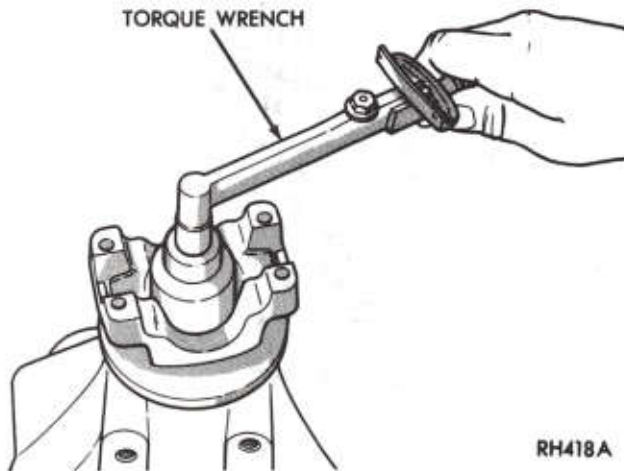

Fig. 23—Rotating Pinion to Seat Bearings
(4) Using inch pound torque wrench, tighten yoke nut until it requires 10 in. lbs. (1.13 N·m) to rotate pinion (Fig. 23).
(5) Recheck pinion depth at this time by placing arbor and discs (small diameter discs for Model 60 axles and large diameter used on Model 70 axle) into cross bore of carrier. Place pinion height block on face